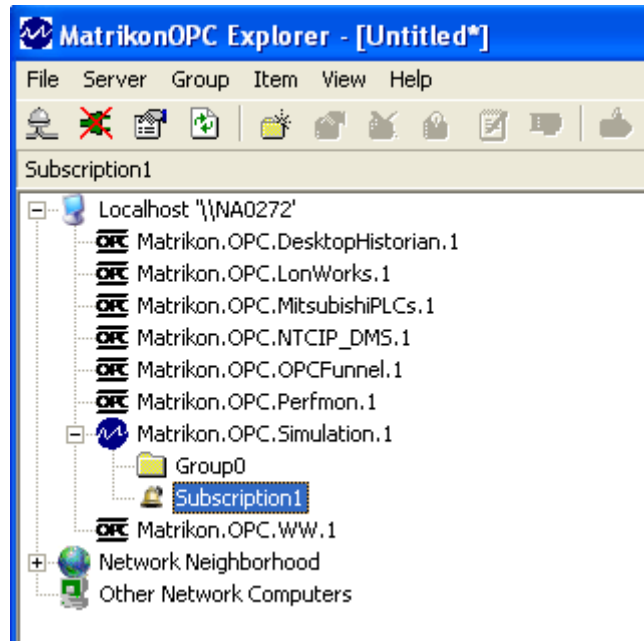

Figure 16 - New Subscription
8. The **Add Subscription** window closes and you are returned to the MatrikonOPC Explorer where the newly-created subscription is now displayed in the navigation pane (Figure 16).
Right-clicking your mouse on a subscription in the navigation pane (as an example, refer to Figure 16), the following options are available: